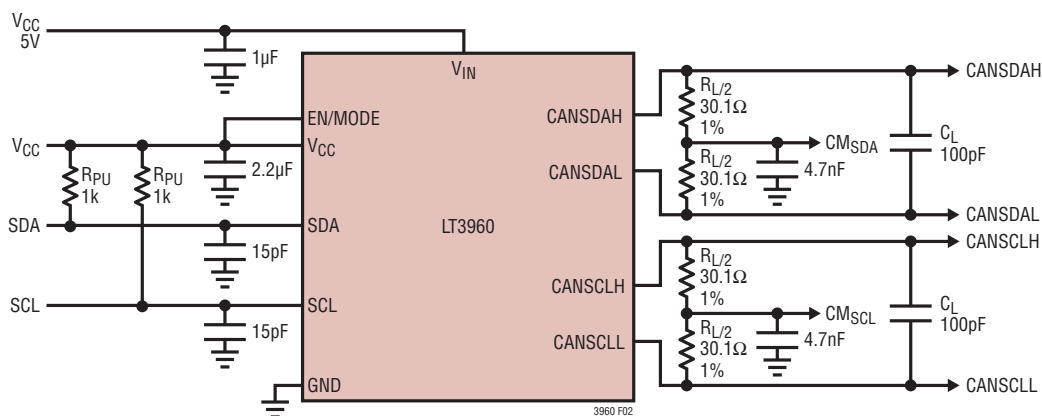

Figure 2. All Switching Characteristic Measurements
**SWITCHING CHARACTERISTICS** The ● denotes the specifications which apply over the full operating temperature range, otherwise specifications are at  $T_A = 25^\circ\text{C}$ .  $V_{IN} = 12\text{V}$ ,  $V_{CC} = 3.3\text{V}$ , Figure 2 applies with  $R_{PU} = 4.99\text{k}\Omega$ ,  $R_L = 60\Omega$ ,  $EN/MODE = V_{CC}$ , TYP values unless otherwise specified.